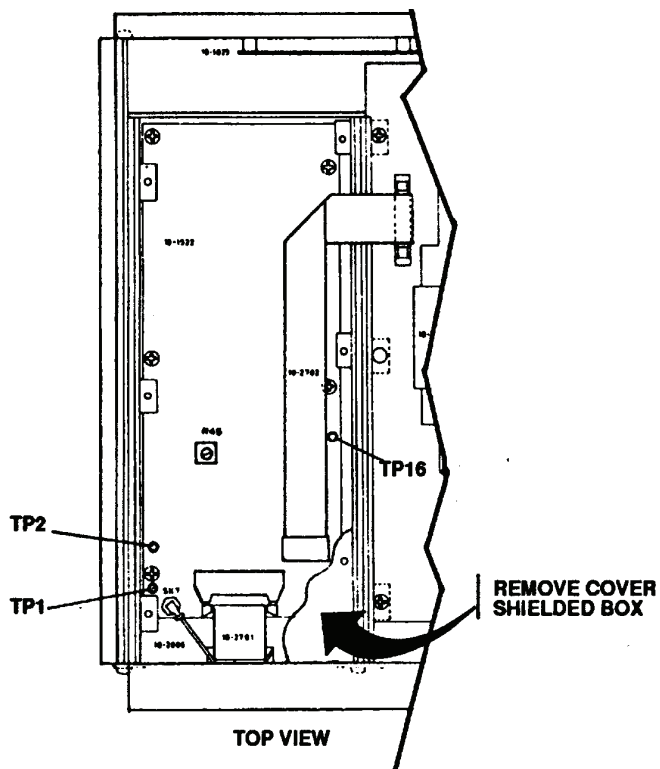
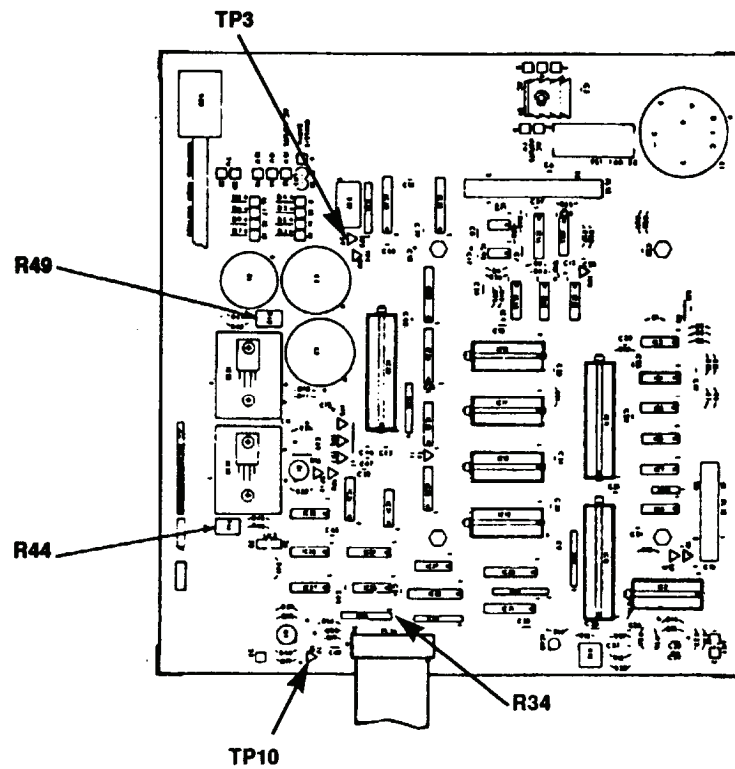

Figure 1. Top view of module assembly.
Figure 3. View of underside of module assembly.
2Figure 1.
**a** Connect digital multimeter positive lead to TP16 and negative lead to TP1 (fig. 1). If digital multimeter does not indicate +15.0 ( $\pm$ 0.5) V, adjust R44 (fig. 3) for a +15.0 V indication (R).
**b.** Move positive lead to TP2 (fig. 1). If digital multimeter does not indicate -15.0 ( $\pm$ 0.5) V, adjust R49 (fig. 3) for a -15.0 V indication (R).
**c.** Move positive lead to TP3 (fig. 3). Digital multimeter will indicate + 5.0 ( $\pm$ 0.25) V.
**d.** Move positive lead to pin 1 of R34 (fig. 3). Digital multimeter will indicate +9.3 ( $\pm$ 1.0) V.
**e.** Move positive lead to TP10 (fig. 3). Digital multimeter will indicate +4.9 ( $\pm$ 0.4) V.